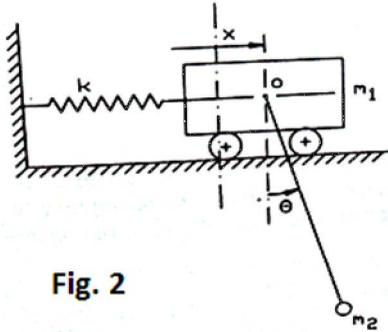

Fig. 2
- (e) Derive the expression for the natural frequencies and mode shape for the system shown in fig.2 for small displacement in the plane of paper. The pendulum rod is stiff and is pivoted at O.